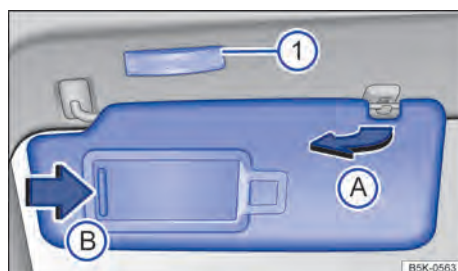

Fig. 80 Sun visor.
- Carefully remove the sun visor from the support, holding the support base, and swivel towards the door → Fig. 80 (A).
A vanity mirror is located behind a cover on the folded down sun visor. When opening the cover → Fig. 80 (B) a lamp lights up (1).